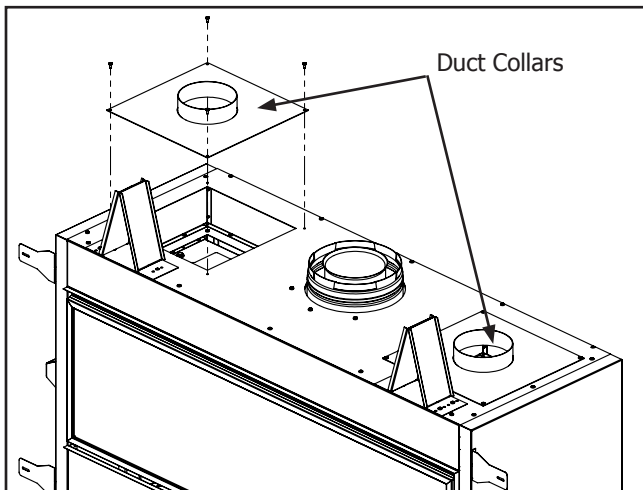

Figure 17. Duct Collars Installed
Step 2: Attach the supplied duct collars to the top of the cabinet as shown (Figure 17). Secure the collars by re-using the eight (8) screws saved in the previous step.